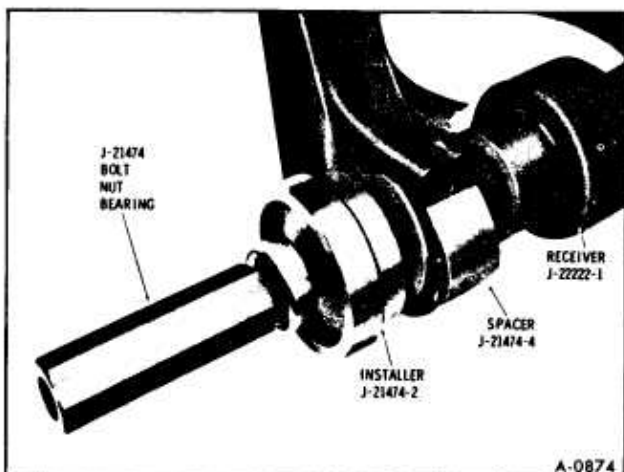

Figure 20—Installing Upper Control Arm Bushing
1. Install Tools as shown in Figure 20 and press bushings into control arm.